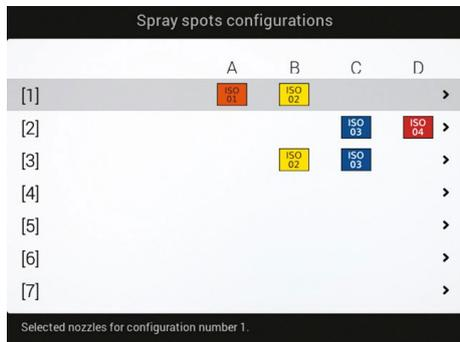

Fig. 47
- Select the configuration you wish to set up (Fig. 47).